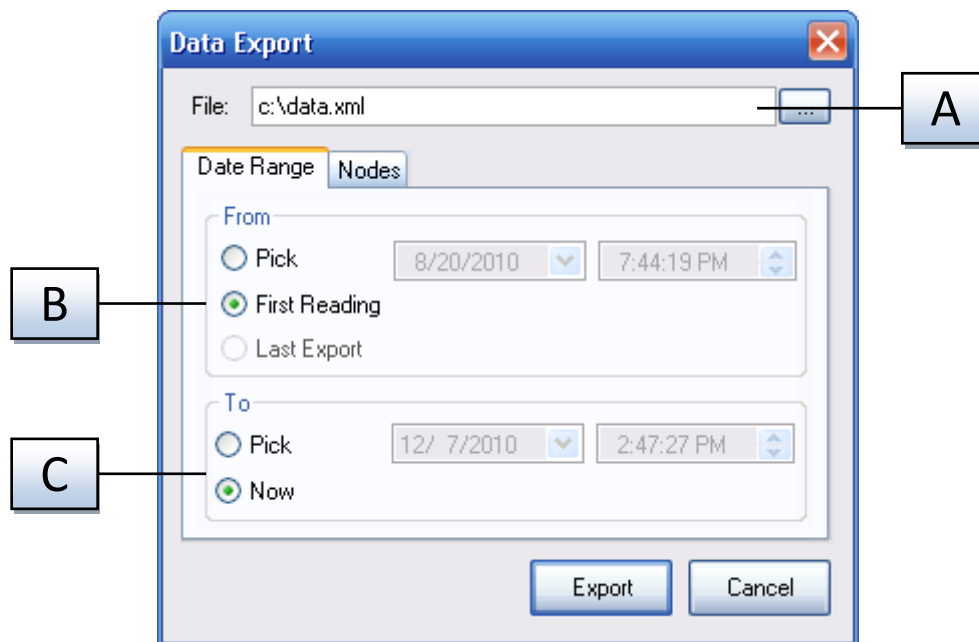
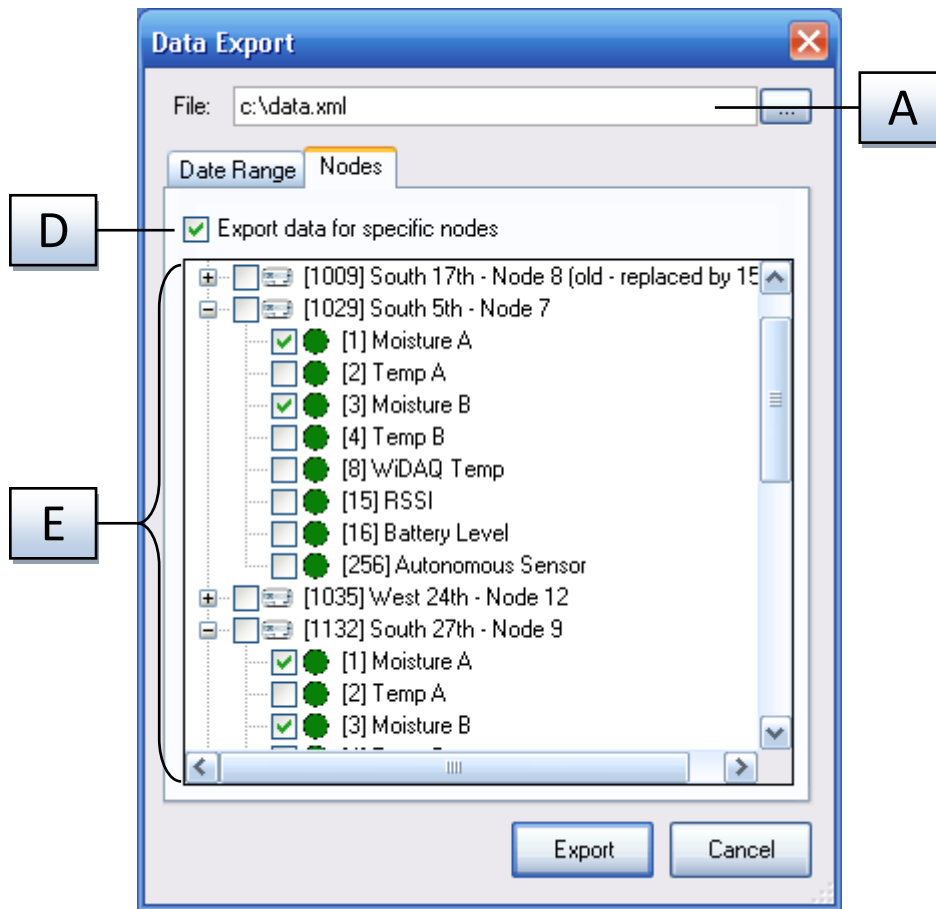

Figure 10-5 - The Data export dialog (date range)
Figure 10-6 - Data export dialog (nodes filter)
2. Fill in the parameters for the data export using the *Data Export* dialog (see FIGURE 10-5, FIGURE 10-6 and TABLE 10-2 for details)